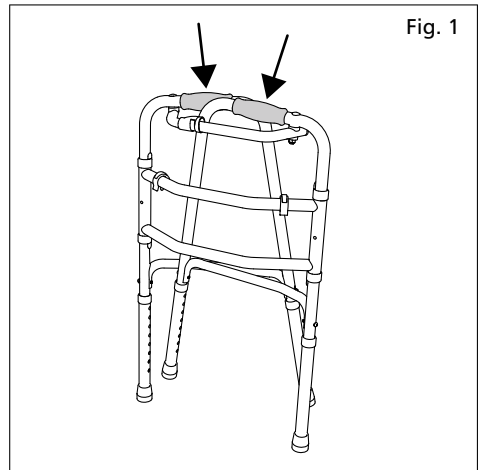

Fig. 1
1. Place a hand on each hand grip (Fig. 1).